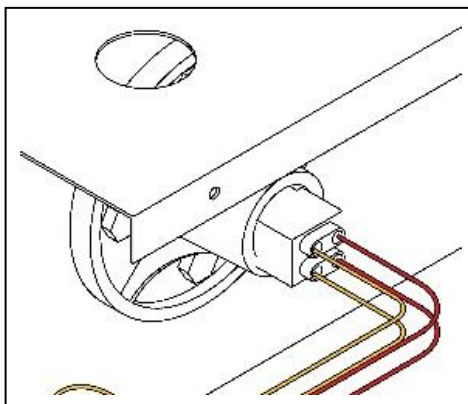

Figure 9
5.) Disconnect lamp plugs from lamps that will be replaced. See Figures 9 and 10.
11.) Reconnect lamp plugs. See Figures 9 and 10.